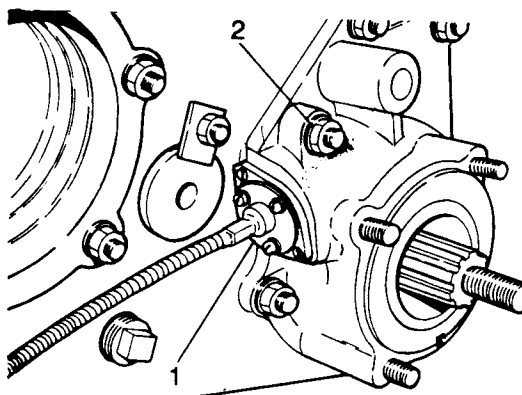

Fig H1.16
(3) Refer to Fig H1.16. Refit the speedometer cover cover fixings (2).
(4) Refit the speedometer cable plate (1) to the gearbox.
(5) Replace the transmission brake (see Sub-sub-section K2.4, Chapter 2).
(6) Refill the transfer box with the correct grade of oil (see Sub-section H2.5).